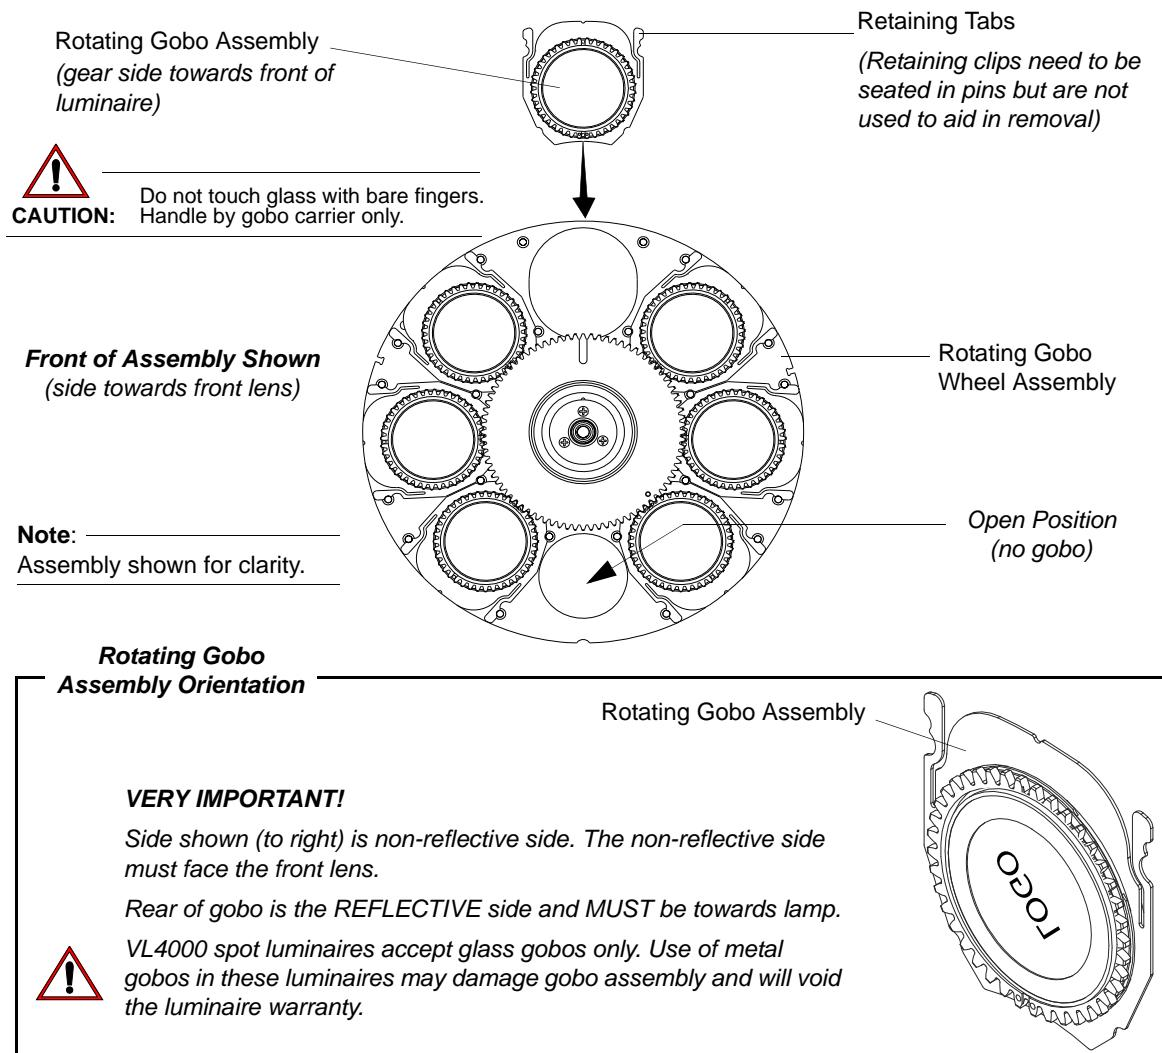

Figure A-9: Rotating Gobo Wheel - Gobo Installation
Step 7. After ensuring main gear slot and gobo assembly timing marks are properly aligned (as described in Step 7, install replacement rotating gobo assembly into gobo position. Note orientation of rotating gobo assembly as indicated in Figure A-9.